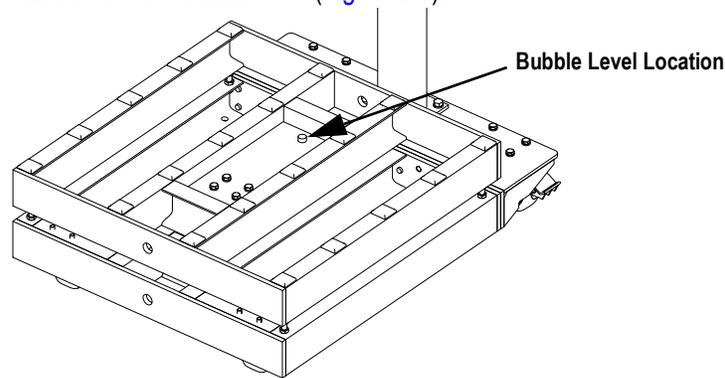

Figure 2-1. Top Plate Removed Showing Bubble Level Location
2. Lift off the deck cover and locate the bubble level (Figure 2-1).